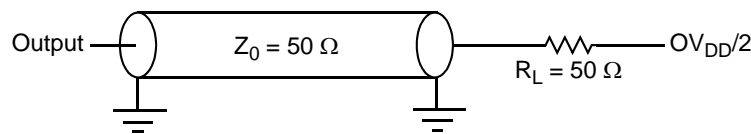

Figure 29. AC Test Load for the JTAG Interface
1. All outputs are measured from the midpoint voltage of the falling/rising edge of  $t_{TCLK}$  to the midpoint of the signal in question. The output timings are measured at the pins. All output timings assume a purely resistive 50-Ω load (see Figure 29). Time-of-flight delays must be added for trace lengths, vias, and connectors in the system.
2. The symbols used for timing specifications follow the pattern of  $t_{(first\ two\ letters\ of\ functional\ block)(signal)(state)(reference)(state)}$  for inputs and  $t_{(first\ two\ letters\ of\ functional\ block)(reference)(state)(signal)(state)}$  for outputs. For example,  $t_{JTDVXH}$  symbolizes JTAG device timing (JT) with respect to the time data input signals (D) reaching the valid state (V) relative to the  $t_{JTG}$  clock reference (K) going to the high (H) state or setup time. Also,  $t_{JTDVXH}$  symbolizes JTAG timing (JT) with respect to the time data input signals (D) went invalid (X) relative to the  $t_{JTG}$  clock reference (K) going to the high (H) state. Note that, in general, the clock reference symbol representation is based on three letters representing the clock of a particular functional. For rise and fall times, the latter convention is used with the appropriate letter: R (rise) or F (fall).
Figure 29 provides the AC test load for TDO and the boundary-scan outputs.